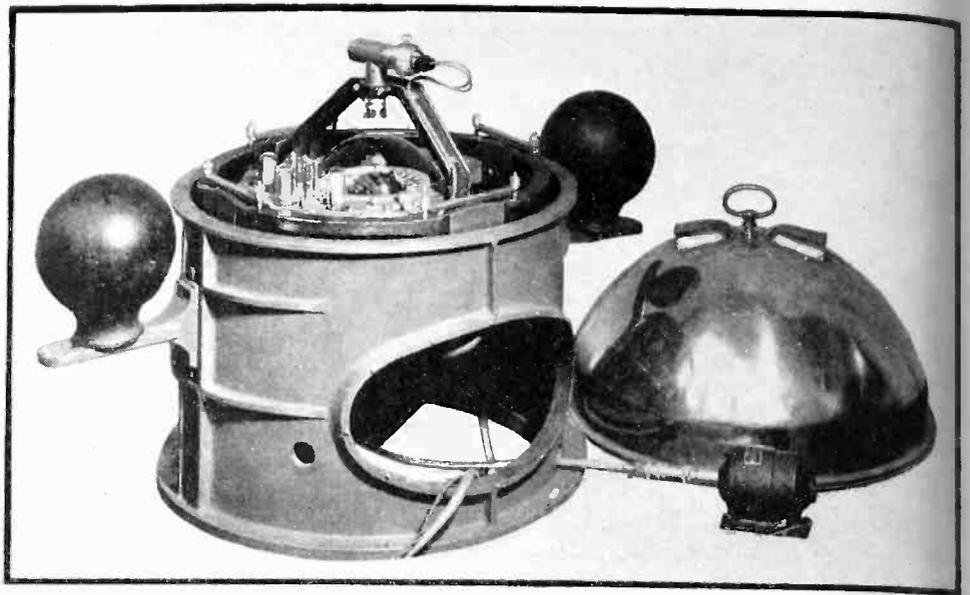

Fig. 2—A mirror is mounted on the spindle of the spherical compass and a lamp is placed directly above it
Fig. 2—The value  $\beta$  of the feedback amplifier is made greater than unity by inserting in series with the bias battery a rectified voltage proportional to the output voltage
In considering the operation of this circuit (Fig. 1), it is first desirable to investigate the special case of a feedback amplifier with an absolute value of  $\beta$  greater than unity (Fig. 2). The fundamental relation for overall gain of a feedback amplifier is
It remains to show that distortion arising from non-linearity of the remote cut-off tube characteristic is not present at the output of the limiting amplifier to any great extent. Consider two amplifiers (1) and (2) (Fig. 2) with voltage gains  $A_1$  and  $A_2$  which include all attenuating networks associated with the amplifiers, so arranged that amplifier (2) is the feedback path for (1), and assume a distortion component of output signal,  $D$ . To produce this output distortion, a distortion  $\Delta$  must be present at the input to amplifier (1) such that
The details of the apparatus will now be described and the methods of overcoming the difficulties previously mentioned will be explained. The binnacle containing the compass and phototubes is shown in Fig. 2. While any type of magnetic compass can be utilized, the spherical compass